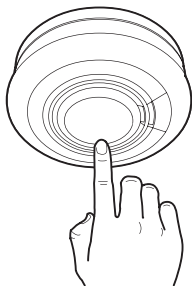

Fig.7
7. Press and hold the Test button for 10 seconds (see Figure 7) on each Alarm to ensure that it sounds. Check that any interconnected Alarms also sound within this period.